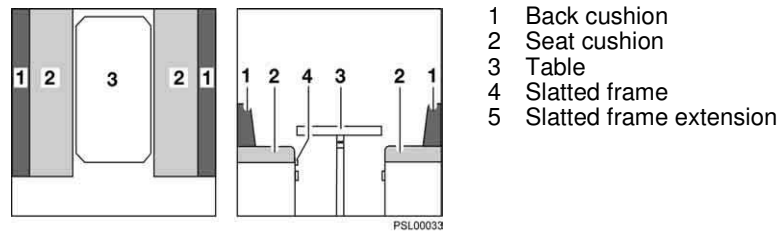

Fig. 39 Prior to conversion
- Convert the table (Fig. 39,2) to a bed foundation (see section 7.6).
- Completely pull out the slatted frame (Fig. 39,4).